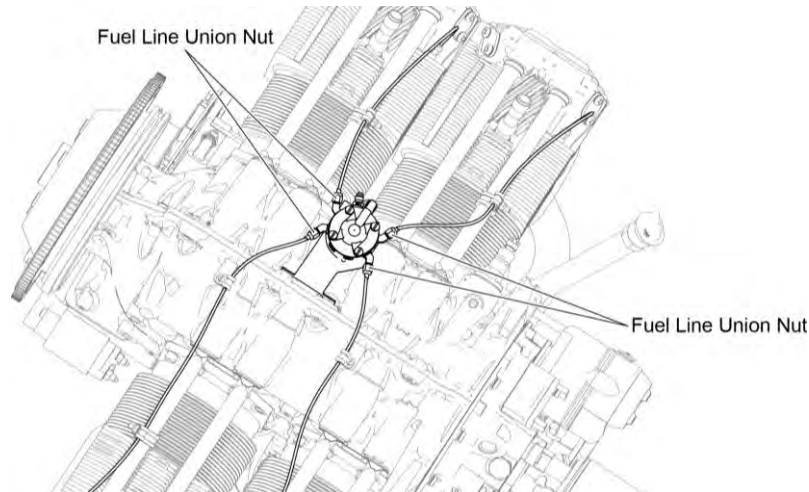

Figure 7
- Torque the fuel line union nut (Figure 7) between 35 to 50 in.-lb. (4 to 6 Nm).